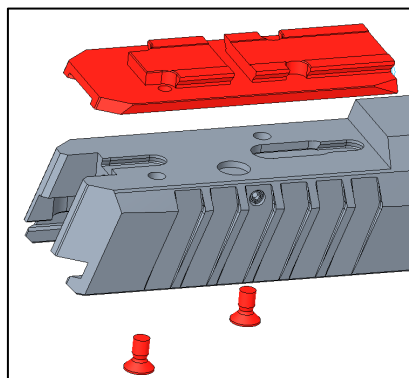

Figure 43: Screws and OR mounting plate to be installed
5. Tighten both screws to secure the OR interface plate to the STEYR ATc slide (Figure 43). Do not overtighten them. Tighten the screws to 2 Nm (12 in-lb) using a torque wrench or by hand by inserting the short end of the supplied Allen key into the screw head and turning it until you feel a slight flex in the key.